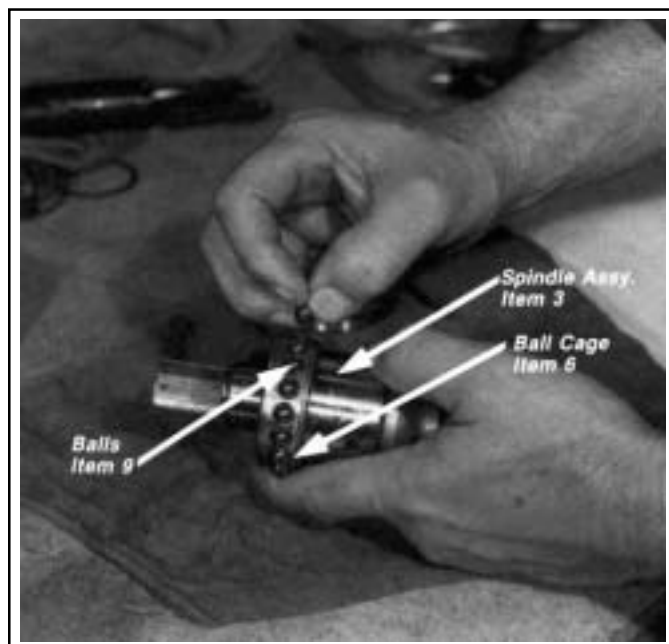

FIGURE 43 - INSTALLING SPINDLE ASSY. BALL BEARINGS
7. Install the ball cage (6) over the input shaft end of the spindle assembly (3). Using a general purpose lithium base grease to hold them in place, install the seventeen balls (9) in the ball cage. Figure 43